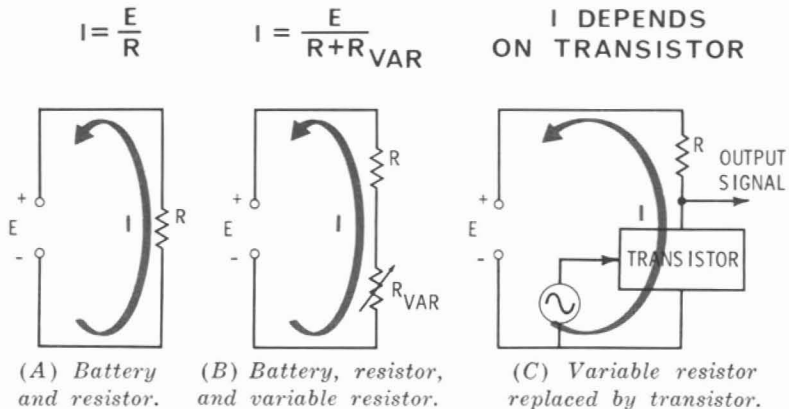

Fig. 1-5. Transistor as a control device.
- Q1-7.** In the analogy presented in Fig. 1-5, the \_\_\_\_\_ of Fig. 1-5C takes the place of manually adjusting the variable resistor and the \_\_\_\_\_ takes the place of the variable resistor itself.
- A1-7.** In the analogy presented in Fig. 1-5, the **input signal** of Fig. 1-5C takes the place of manually adjusting the variable resistor, and the **transistor** takes the place of the variable resistor itself.